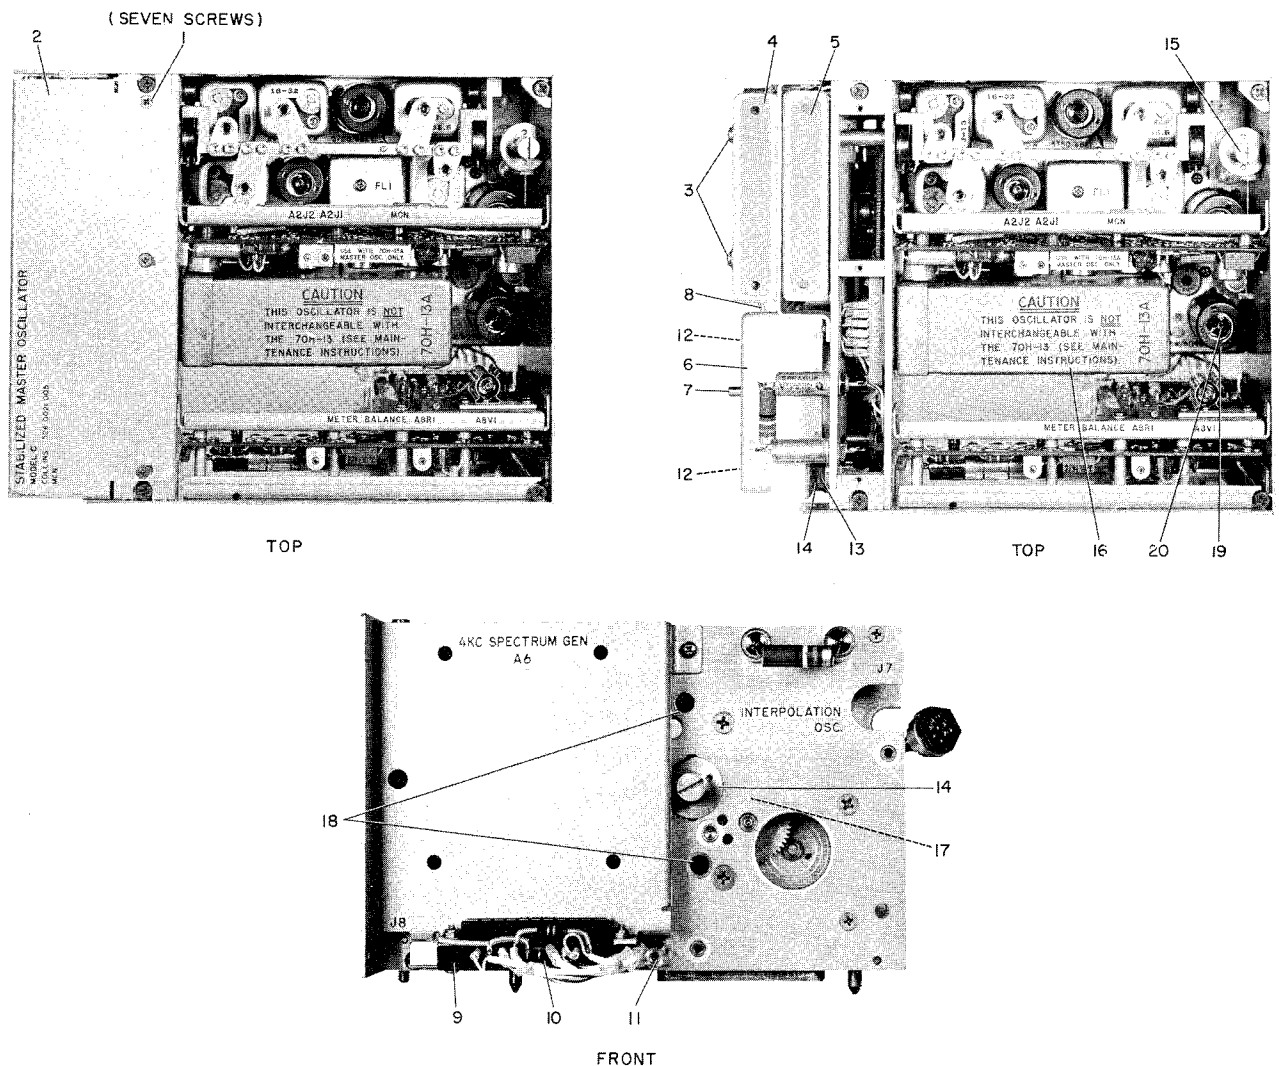

Figure 5-15. Converter-Oscillator CV-731/URC, SMO Module, Front and Top Views
(e) REMOVING SMO SUBASSEMBLIES. - Refer to figure 5-15 for SMO subassembly locations.
7. To remove the master oscillator (16), remove the gear support tool (15) (secured by two screws in the upper left rear corner of the SMO module), and insert it into the large hole in the gear plate opposite the master oscillator shaft end. Align the two small wing clips on the tool with the hold notches in the gear plate, insert, and turn to lock. The small end of the plunger should be pressed against the master oscillator shaft end. This gear support tool holds the shaft gear meshed with the gear train to prevent misalignment of end-stop adjustment.
8. Loosen the Bristo screw (17) in the master oscillator shaft gear clamp. Remove the two screws securing the master oscillator to the gear plate by inserting the Bristo wrench through access holes in the gear plate (the top mounting screw also mounts a solder lug). Remove shield (19) of the tube V3 (20) and remove V3. Remove the master oscillator; make certain the plunger of gear support tool enters master oscillator shaft gear hub as master oscillator shaft is pulled out.
9. To remove the signal i-f amplifier subassembly, refer to figure 5-15, and set the SMO in the position shown in the top view. Remove the three roundhead Phillips screws and lock washers holding the board in position. Place the Phillips screwdriver through the two holes provided at the top of the SMO frame to reach two of the screws and use the offset Phillips screwdriver provided in Electrical Equipment Maintenance Kit MK-447/URC-32 to remove the third screw on the far right-hand side of the board. Slip the board out carefully.
10. To remove the reference i-f amplifier subassembly, refer to figure 5-15 and place the SMO on the bench with the top side up. Remove the four flathead Phillips screws on the top of the right side (of SMO frame) that support the red-head captive screw bracket. Remove the one flat-head screw on the top of the rear side (upper left-hand corner) that supports the bracket, and remove the bracket. Remove the four long flathead Phillips
1. MASTER OSCILLATOR. - Refer to figure 5-15 and proceed as follows:
c. Secure the master oscillator (16) to the gear plate with the two binderhead screws (51). Do not tighten the SMO clamp at this time.
e. Replace tube V3 (20) and tube shield (19).
2. INTERPOLATION OSCILLATOR. - Refer to figure 5-15 and proceed as follows:
a. Turn the interpolation oscillator (6) shaft (7) clockwise to the low-frequency end stop.
b. Carefully place the interpolation oscillator in place on the SMO gear plate engaging the gear drive with the gear train and A5P1 (14) to J7 (13) being careful not to twist plug pins.
c. Tighten the two captive screws (11) in the interpolation oscillator (6).
d. Connect the coaxial leads (8) to pin F of J8 (9) and pin D of J5 (10). Lace these two leads into the cable.
3. I-F MIXER, SIGNAL I-F AMPLIFIER, AND 4-KC SPECTRUM GENERATOR. - Refer to figure 5-15 and proceed as follows:
a. Carefully plug the i-f mixer and signal i-f amplifier (5) in place.
b. Plug the 4-kc spectrum generator (4) in place, and secure the two subassemblies with captive screws (3).